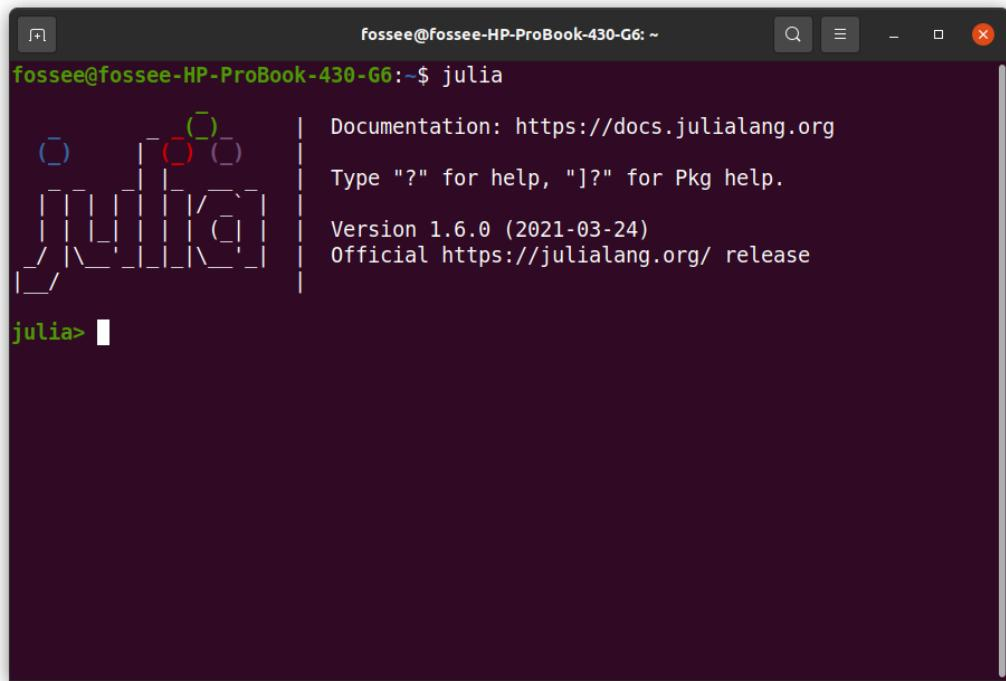

Figure 3.12: Linux terminal to launch Julia REPL
1. Open a Terminal by pressing **Ctrl+Alt+T** keys together. Type `julia` and press Enter. It should launch Julia in an interactive session (also known as a read-eval-print loop or "REPL"), as shown in Fig. 3.12. When run in interactive mode, Julia displays a banner and prompts the user for input. By default, Julia REPL appears in Julian prompt. It is the default mode of operation; each new line initially starts with `julia>`, as shown in Fig. 3.12. It is here that you can enter Julia expressions. Hitting return or Enter after a complete expression has been entered will evaluate the entry and show the result of the last expression.
We can also check the status of this package to verify whether it has been installed successfully or not. For this, we need to get back to Julia REPL. Inside **Pkg** REPL, press backspace. The moment you press backspace, you get back to Julia REPL, as shown in Fig. 3.12. Now, type **using Pkg** and press Enter. This command will not generate any output. Now type **Pkg.status()** and press Enter. It should display the list of packages installed in Julia's environment. Please make sure that **SerialPorts** is present in the list of packages being shown. To exit the interactive session, type **CTRL+D** or type **exit()**.